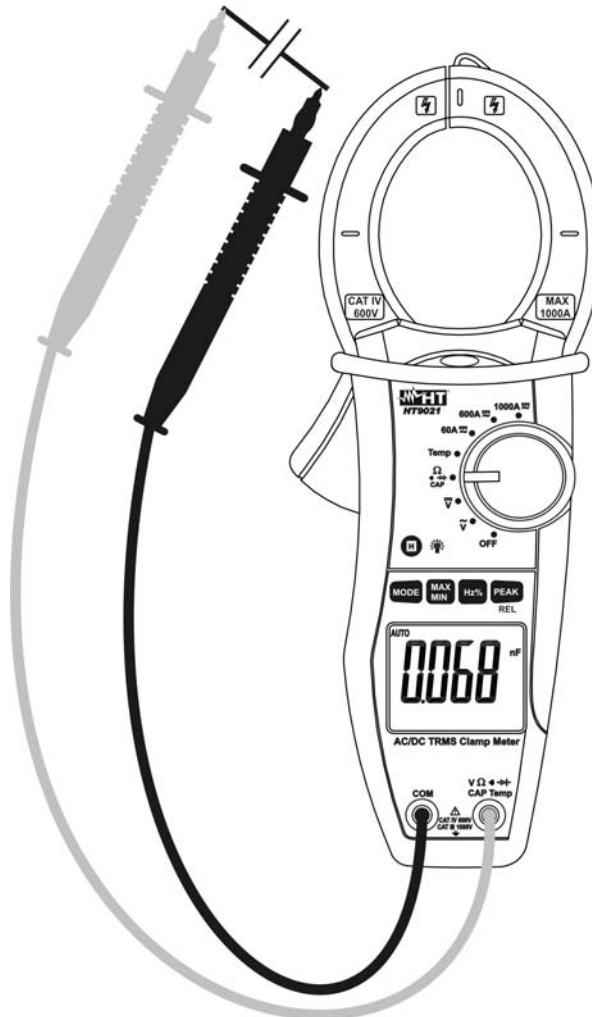

Fig. 7: Taking Capacitance measurement
3. Insert the red test lead plug into $V \Omega \cdot \text{CAP Temp}$ jack and the black test lead plug into **COM** jack (Fig. 7)